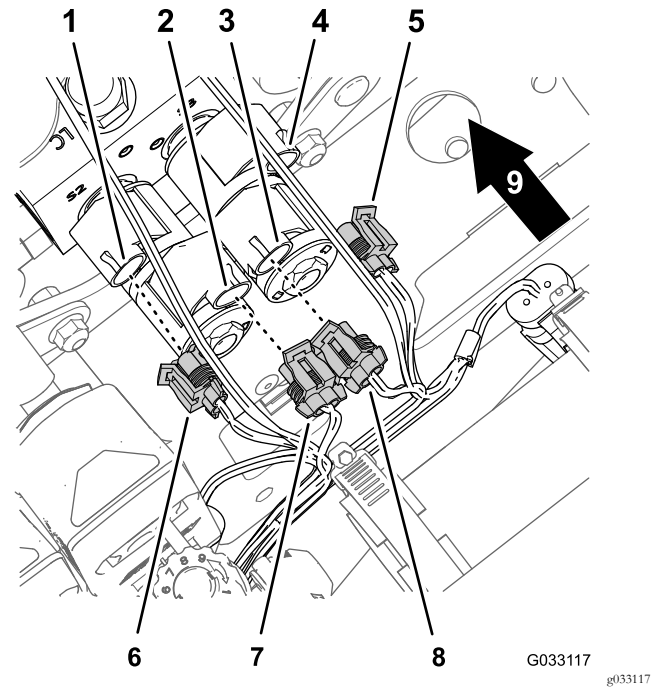

Figure 17
3. Disconnect the 2-socket connectors of the wire harness for the sonic boom finishing kit (Figure 17) from the 2-pin connectors of the solenoids of the lift-cylinder manifold as follows: